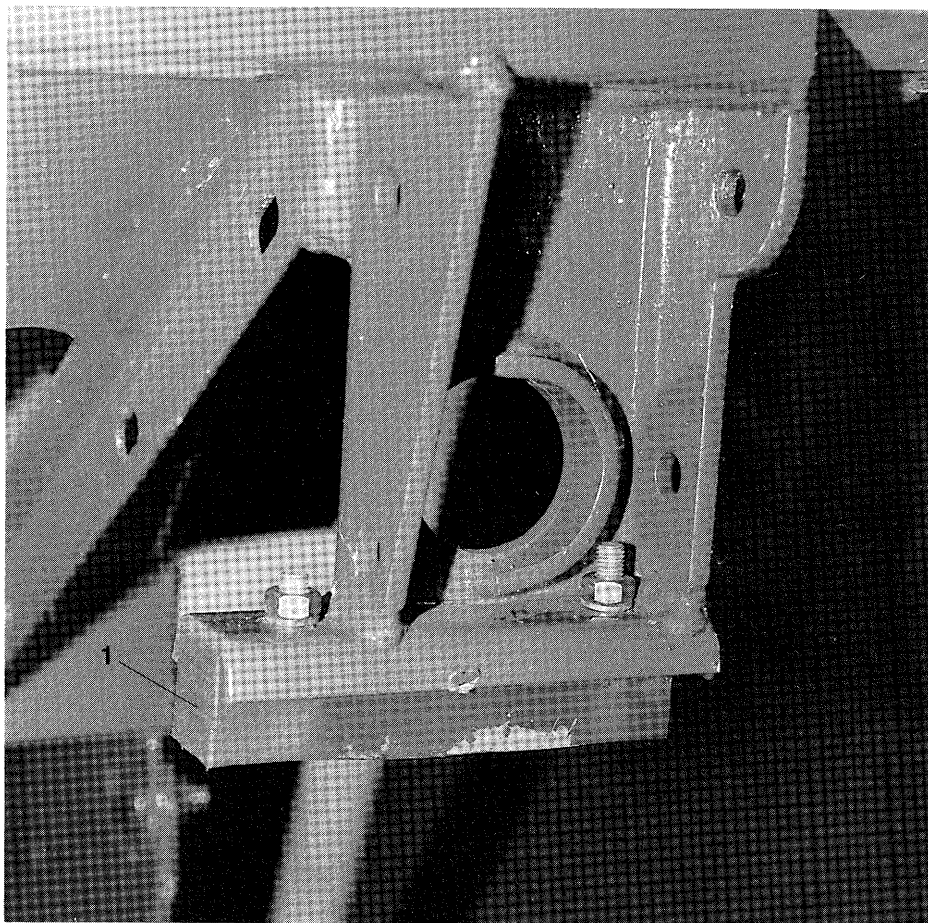

Fig. 17
-  Fix the two plastic blocks (Fig. 17/1) on the sides of the pack top seed drill.